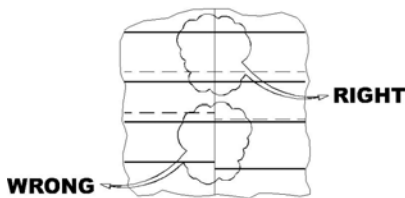

Figure 2
b. Be sure that the bottom edge of two courses line up. If not, one side or the other will have a gap when the corner is installed. See Figure 2.